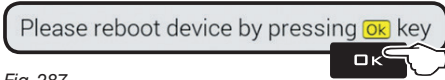

Fig. 287
- Message in Fig. 287 is displayed once the process is completed. Reboot device by pressing **OK**.